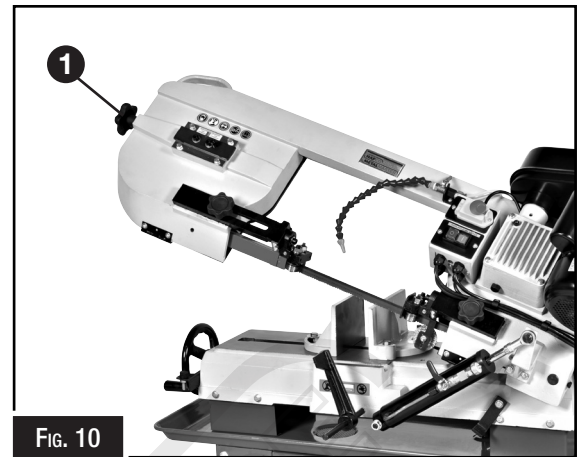

FIG. 10
3. Turn blade tension knob (1, Fig. 10) one and three quarter to two revolutions clockwise. This equals approximately 800kgs of blade tension.